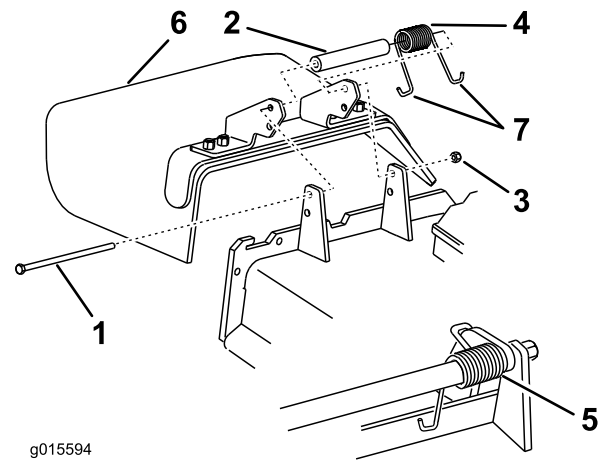

Figure 5
1. Remove the side discharge chute from the mower deck (Figure 5).